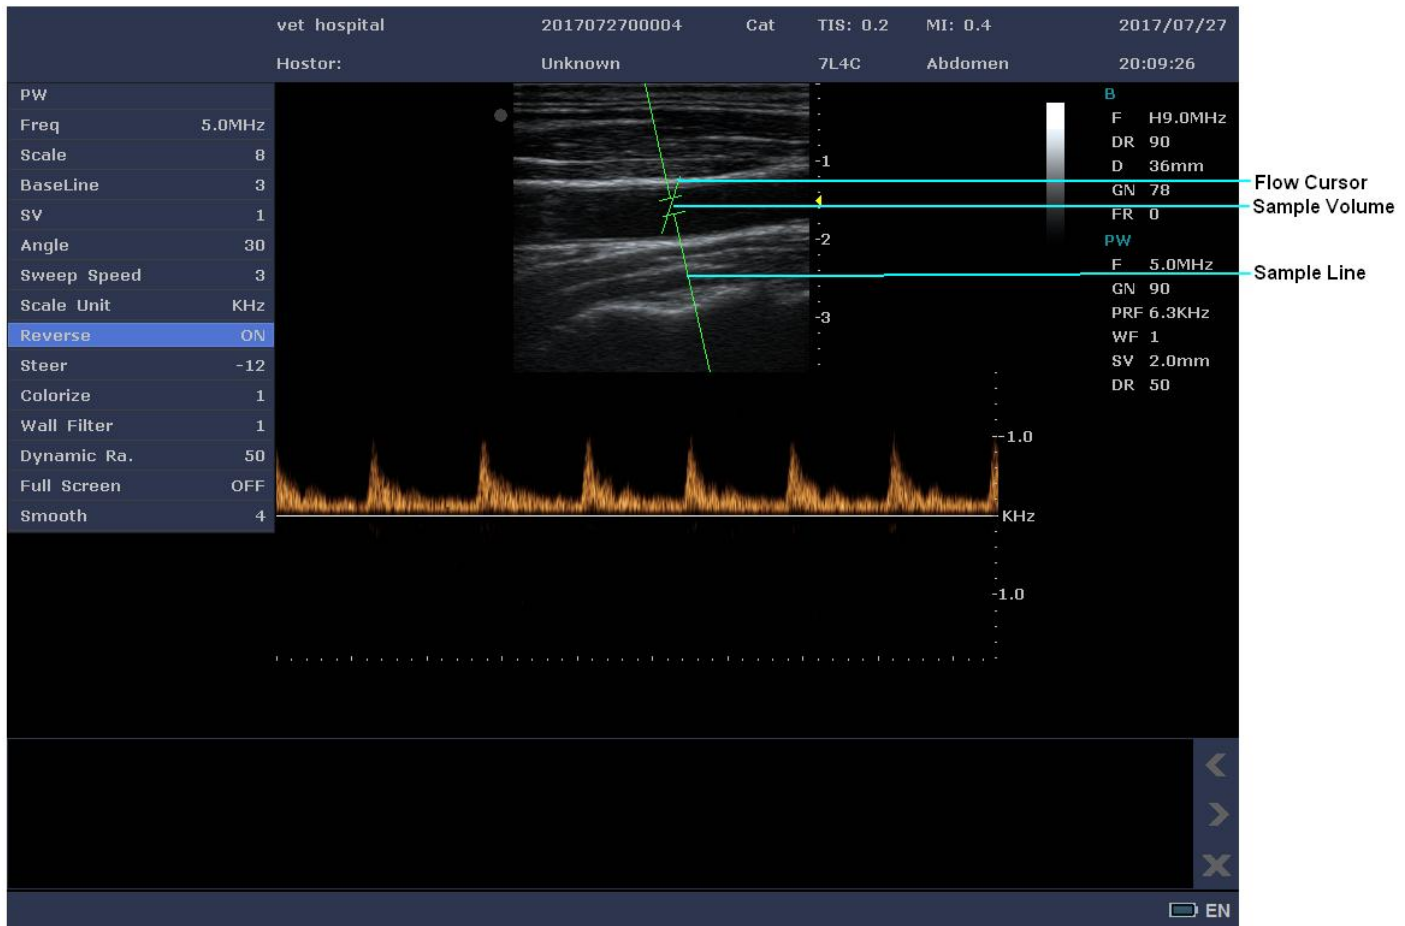

Figure 6-9 PW Mode Image
2. Press the **PW** key on the control panel to enter the PW mode, as shown in Figure 6-9.